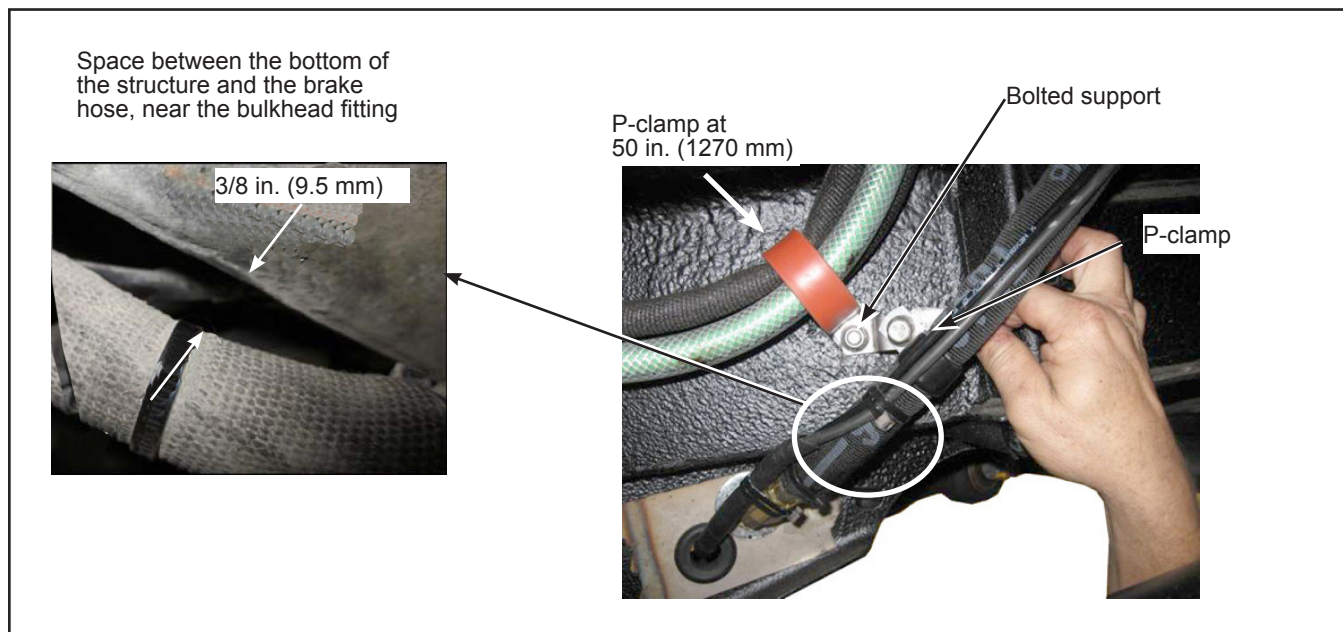

Figure 11 - P-Clamp and Hose Position
- 2.13. Adjust the positioning of the P-clamp at the 50 in. (1270 mm) position, to obtain a minimal gap of 3/8 in. (9.5 mm) between the hose and the vehicle structure. See Figure 11.